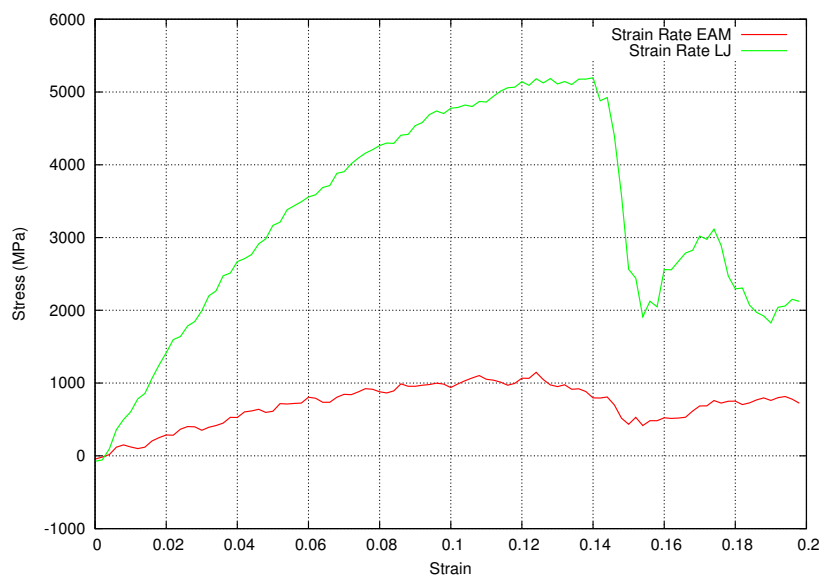
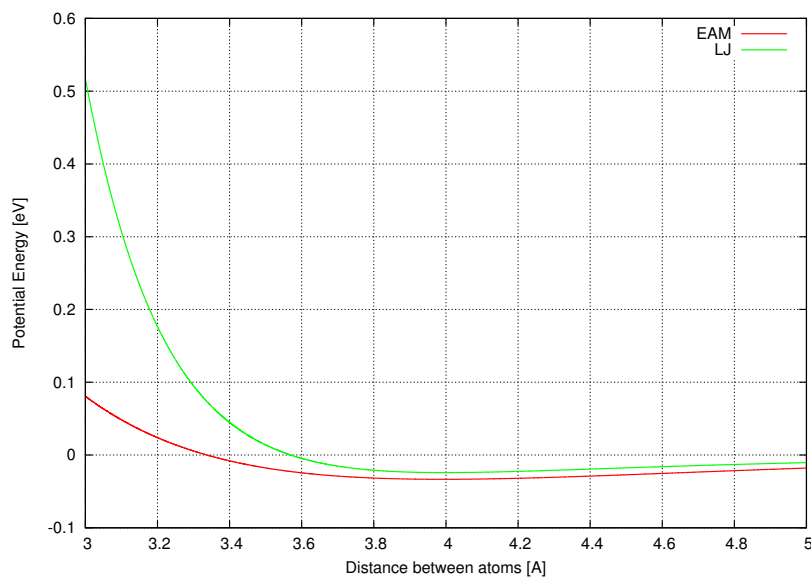

Figure 4: Stress-strain plot using LJ, EAM
Figure 5: LJ v EAM
At first glance Figure 4 and Figure 5 appear to be at odds with each other. How can a weaker potential (LJ) result in a greater Young's modulus and yield stress while a stronger potential (EAM) has a smaller Young's modulus and yield stress? The plots do not tell the entire story. In MD, the user is required to define the range beyond which the potential does not act. For the LJ potential, the cutoff distance is typically chosen to be  $2.5\sigma$ , while the EAM potential varies depending upon the implementation. In this scenario, the LJ implementation had a greater cutoff distance than the EAM. Thus LJ atoms continued to experience neighbouring potentials when far apart, while EAM